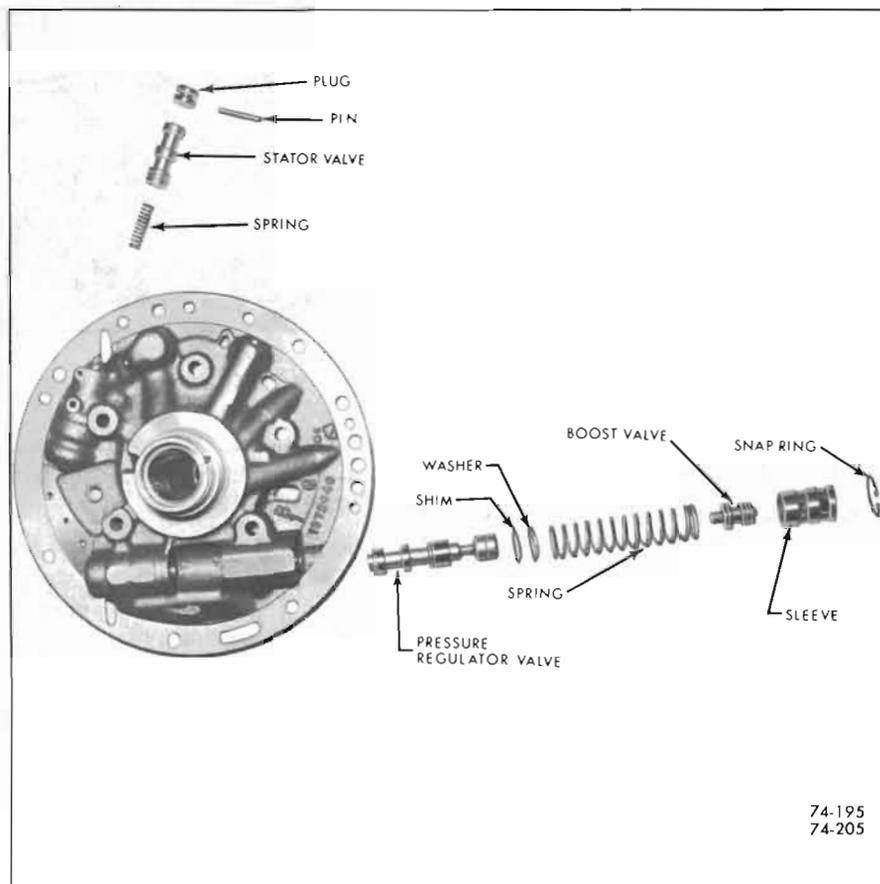

Figure 74-195
11. After retaining snap ring has been removed, remove boost valve sleeve and valve, spring, washer, and pressure regulator valve. See Figure 74-195.
12. Remove stator valve and spring. See Figure 74-195.